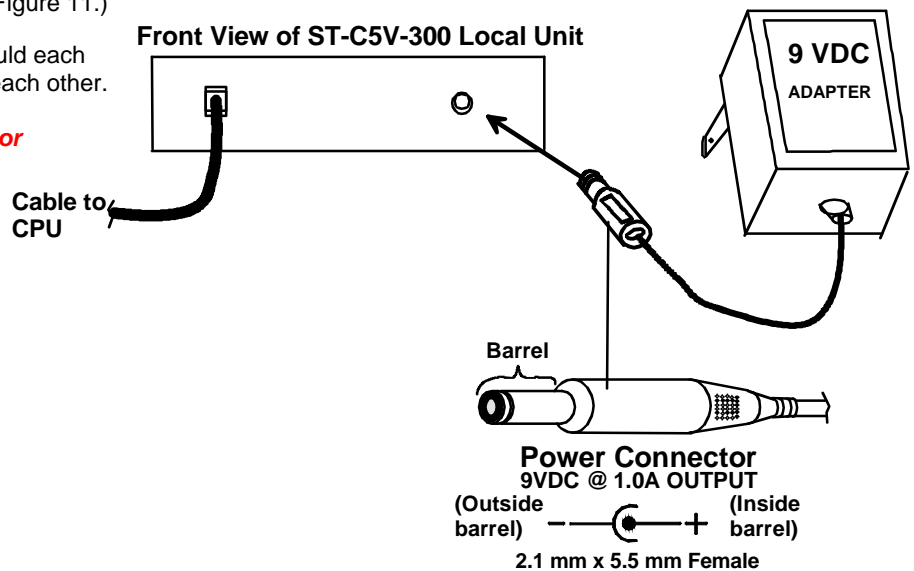

Figure 11- Connect the AC adapter to the Local Unit
2. Connect the AC adapter power connector to the 9VDC ports on the Local Unit. Plug the AC adapter into a power outlet. The green LED on the RJ45 connector of both the Remote and Local Units should illuminate, indicating that a proper power connection has been made to them. (See Figure 11.)